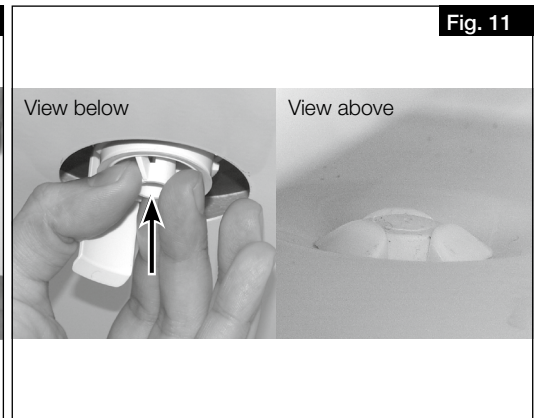

Fig. 11
2. Plug the mounting part in the condensate outlet from below, until the claw fasteners snap to the sheet edge of the base plate (Fig. 11).